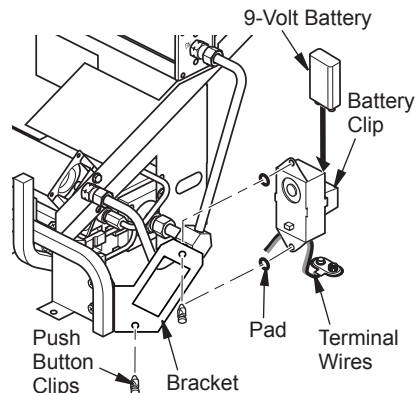

Figure 22 - Installing Remote Receiver
8. Install remote receiver into receiver bracket using pads and push button clips provided with receiver (see Figure 22).
- Locate the battery clip mounted on the back of the receiver (see Figure 22, page 17).